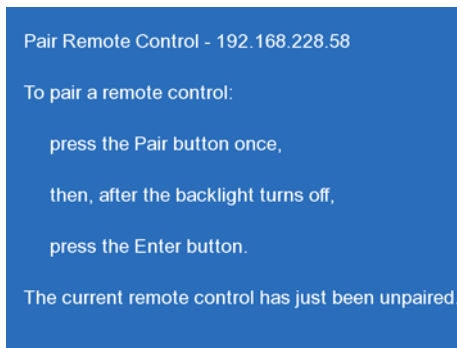

Figure 3-41 Pair Remote Control
2. Click **Remote Control** and then **Pair** from the cascading menu. The screen shown in **Figure 3-41** appears on the OSD.